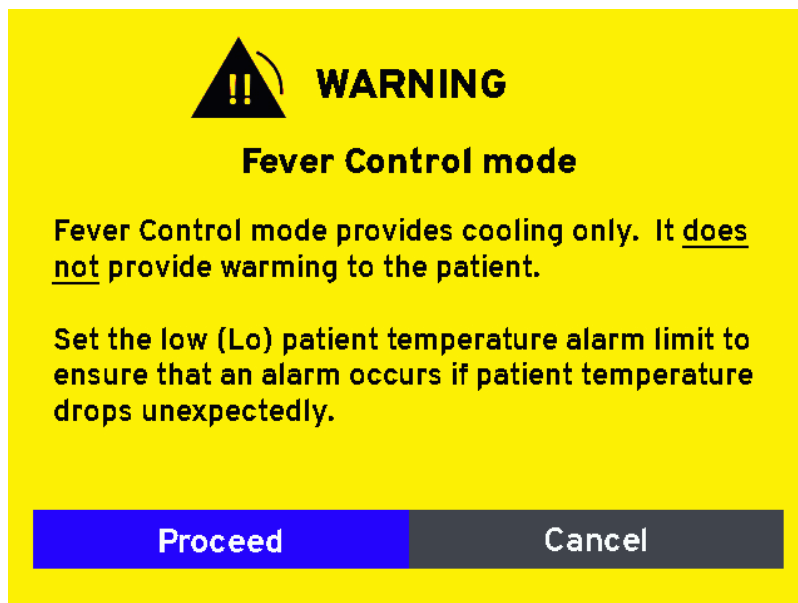

Figure 4.13. Fever Control mode confirmation message
- If you selected Fever Control mode, you are asked to confirm your selection with the reminder that Fever Control mode only cools and does not warm (Figure 4.13).